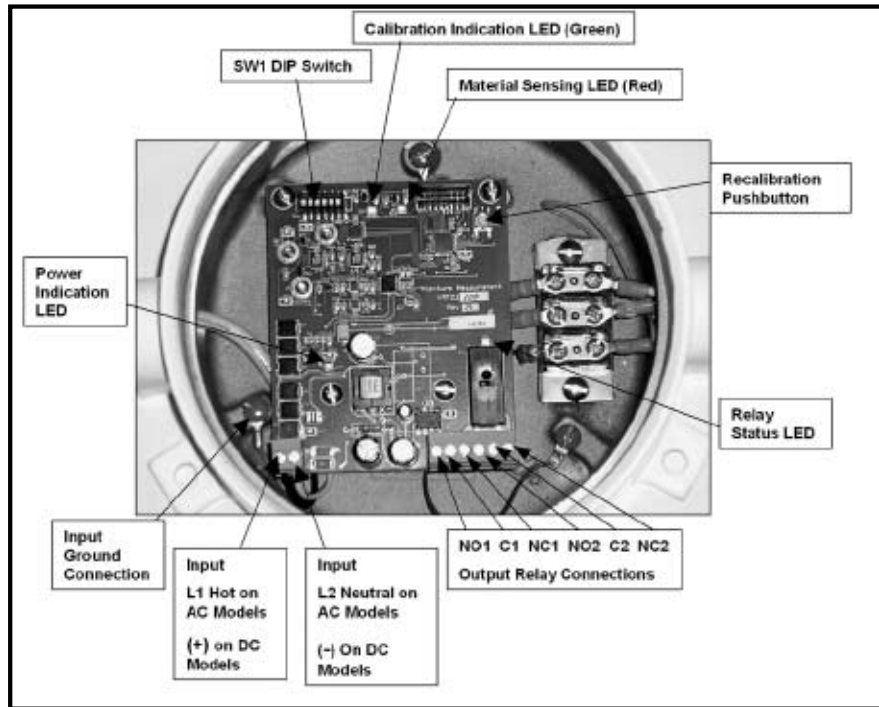
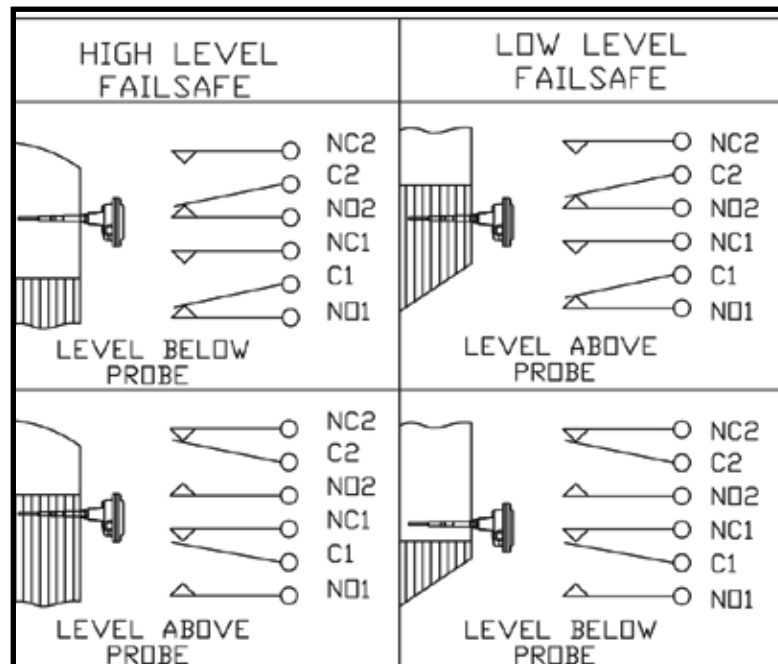

Figure 1. VRF-1000 Electronics
Figure 2. High/Low Level Failsafe
See Figures 1 and 2 in section 4.2 for location of input and output wiring.
See Figure 1 for location of input and output terminal blocks. Agency approved insulated barrel type terminals are supplied in the input terminal block to provide additional safety. These terminals must be used in order to maintain approval requirements. See Figure 2 for output contact positions during stages of operation.
IMPORTANT! An electrical earth ground connection must be made to the housing input ground screw. See Figure 1 for location. This connection is needed for both electrical safety and proper operation of the unit. This is required for both AC and DC units.
The VRF™ is shipped from the manufacturer in the high level failsafe condition. This setting is made on DIP switch SW1, position 5. See Figure 1 in section 4.2.
The VRF™ is shipped from the manufacturer in the 2pF setting. This setting is made on DIP switch SW1 positions 1 and 2. See Figure 1 in section 4.2.
The VRF™ is shipped from the manufacturer in the minimum time delay setting. This setting is made on DIP switch SW1 positions 3 and 4. This setting will delay the time between when the VRF™ unit senses material and the output relay changes state. The delay is only in this direction, regardless of failsafe setting. There will be no delay when the material leaves the probe. See Figure 1 in section 4.2.
The VRF-1000 features EZ-CAL[®] II. This feature consists of three parts. First, is an automatic calibration when the unit is first powered up. This should be done when no material is present at the probe. Second, is an automatic recalibration if the VRF[™] electronics senses that the capacitance of the probe circuit has decreased significantly from what it was when it was last calibrated. Third, is the ability to manually recalibrate by momentarily pushing the recalibration pushbutton. See Figure 1 in section 4.2. The VRF-1000 is shipped from the manufacturer with the automatic calibration/recalibration feature enabled. If only manual pushbutton calibration/recalibration is desired, set SW1 DIP switch position 6 to off.
If the unit is powered on the bench prior to installation, or moved from one installation to another, recalibration is required. Momentarily press the recalibration pushbutton. See Figure 1 in section 4.2 for location. The green calibration indication LED will go off, and after 3 seconds illuminate to indicate calibration is complete.
- Check for proper input voltage. If correct, the "Power Indication LED" should be illuminated. See Figure 1 in section 4.2 for location.